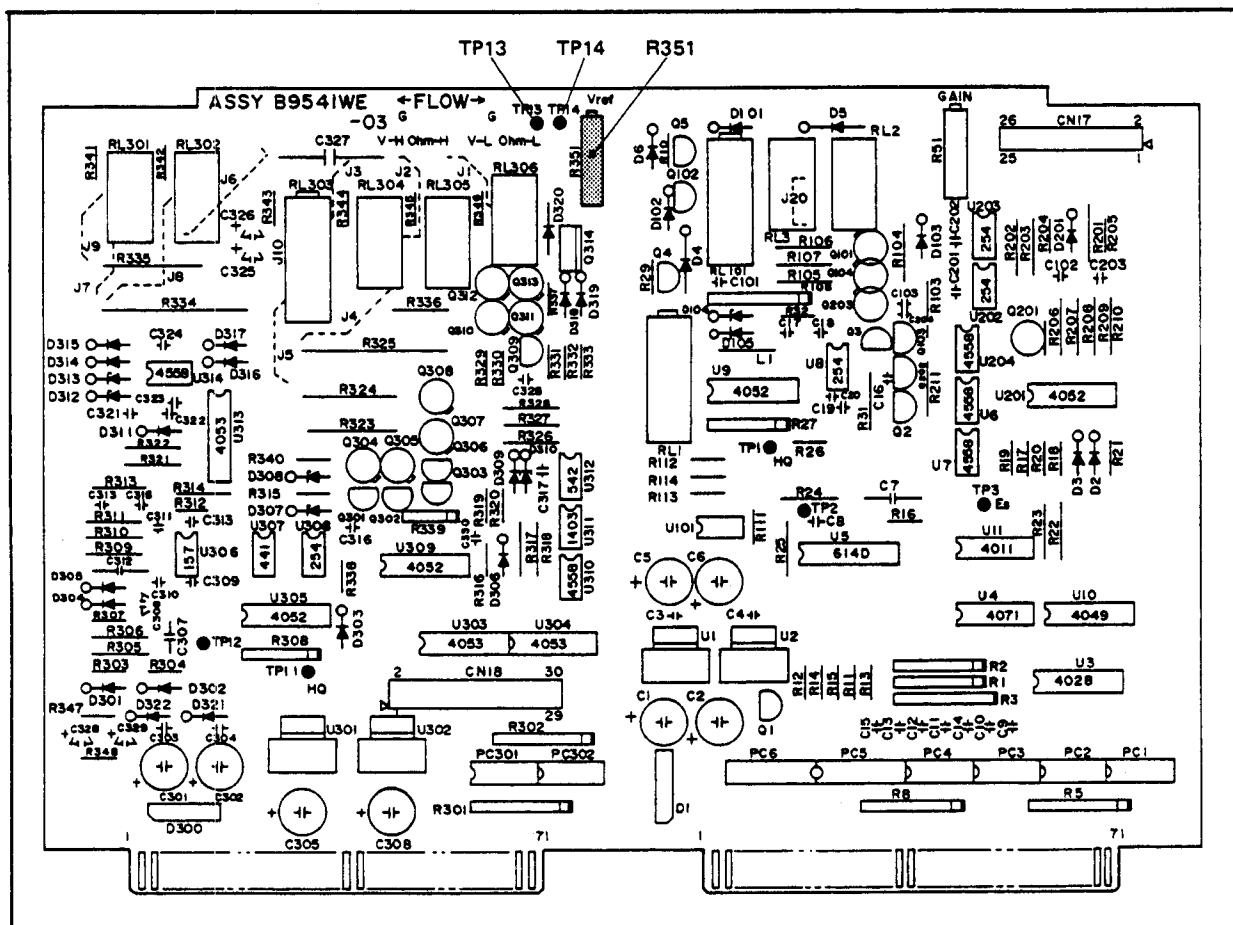

Figure 11-3. A/D Card Ass'y: B9541WE/WF/WG.
- 3) Connect a digital multimeter – set for DC voltage measurement mode – between test points TP14 (1 V) and TP13 (R-COM) on the A/D Card Ass'y: B9541WE/WF/WG shown in Figure 11-3.